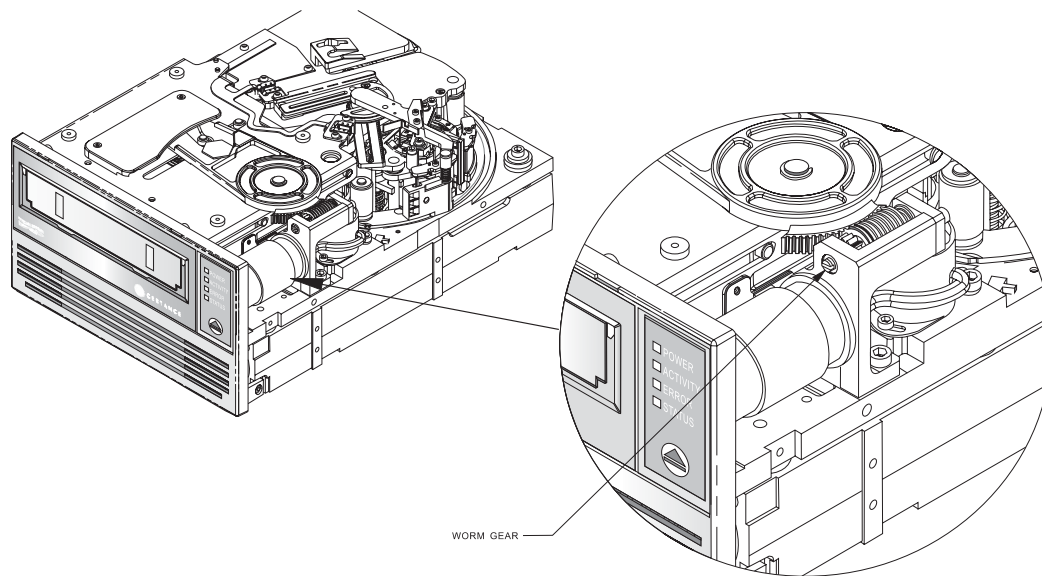

Figure 7. Worm Gear
13. Use a flat-blade screwdriver to turn the worm gear counter clockwise (to the left). Figure 7 on page 8 shows the location of the worm gear. This will gradually raise the cartridge elevator and cause the cartridge to slide partially out of the drive.